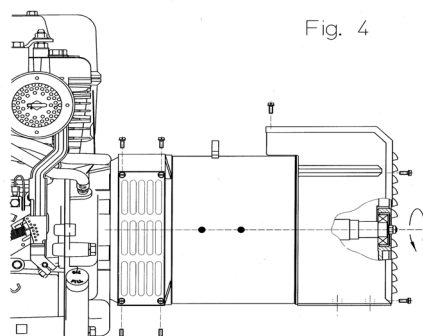

Fig. 4
-) block the central stay rod, applying a tightening torque of $21 \pm 7\%$ Nm if you are using stay rods of M8, while if you are using M14 stay rods, apply a tightening torque of $120 \pm 7\%$ Nm; reassemble the lateral protective nets and the rear closing grid by applying a tightening torque of $3,5 \pm 7\%$ Nm to the M5 screws (figure 4)